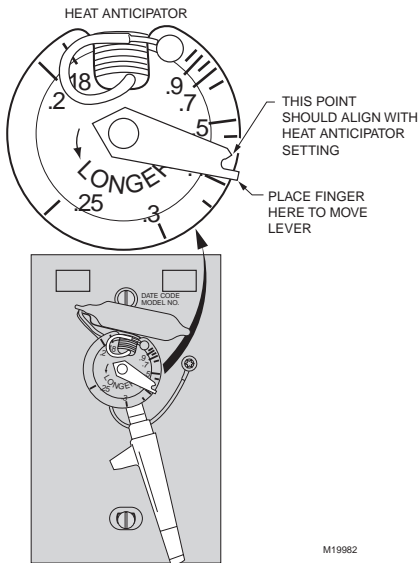

Fig. 7. Heat anticipator on new thermostat.
1. Set the heat anticipator lever to the number that you recorded in **Step 2. Remove Old Thermostat**, sub-step 4 (see Fig. 7).
3. Place the cover on the thermostat and turn the power back on. If the heating system runs too long to maintain a comfortable temperature, adjust heat anticipator lever clockwise one scale mark (see Fig. 7). Do not adjust heat anticipator below .3 Amps. If the heating system needs to run longer to maintain a comfortable temperature, adjust heat anticipator lever counterclockwise, in the direction of the arrow, one scale mark (see Fig. 7).
Heating system runs too long to maintain a comfortable temperature.	<ul style="list-style-type: none"> • Verify the thermostat is level. • Adjust heat anticipator lever clockwise one scale mark (see Fig. 7). Do not adjust heat anticipator below .3 Amps.
Heating system needs to run longer to maintain a comfortable temperature.	<ul style="list-style-type: none"> • Verify the thermostat is level. • Adjust heat anticipator lever counterclockwise, in the direction of the arrow, one scale mark (see Fig. 7).